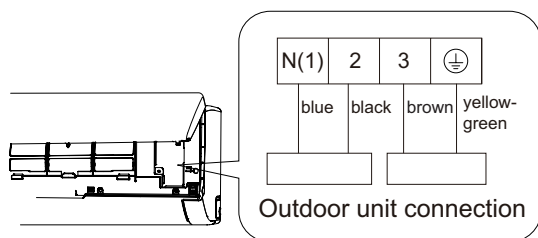

Fig.13
(3) Remove the wire clip; connect the power connection wire and signal control wire to the wiring terminal according to the color; tighten the screw and then fix them with wire clip.(As show in Fig.13)